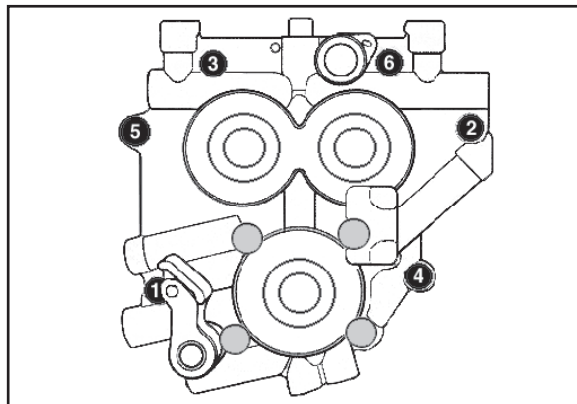

Figure 2
- L- Following sequence shown, alternately loosen and remove cam support plate bolts. **See Figure 2** below right.
- H- Loosely install support plate screws with a drop of Loctite® threadlock 242 or 243 (blue). Alternately tighten screws to 95 in-lbs. torque following sequence shown. **See Figure 2 Page 5.**
**Support plate screws that pass through alignment dowels (See positions 1 & 2 in Figure 2) can be easily stripped when applying maximum 120 in-lbs. torque as recommended by Harley-Davidson®.**